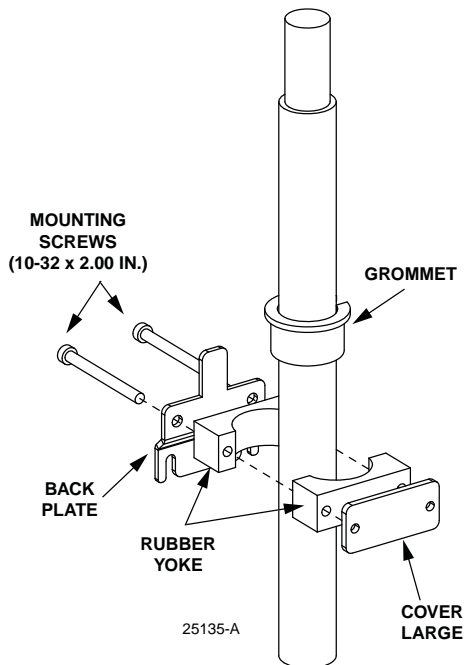

Figure 43. Large Cable Clamp Exploded View
9. If the cable diameter is greater than 0.8 in (2.03 cm) and less than 1-1/32 inch (2.62 cm), assemble the “large” cable clamp at the cable clamp position (see Figure 43). There are different sizes of grommets, measured by their inside diameters of 0.8, 0.9, and 1.0 in. (2.03, 2.29, and 2.54 cm). Select the grommet with an **inside** diameter that is one size smaller than the **outside** diameter of the cable. After assembling the components on the mounting screws, tighten the screws until the yokes make contact.